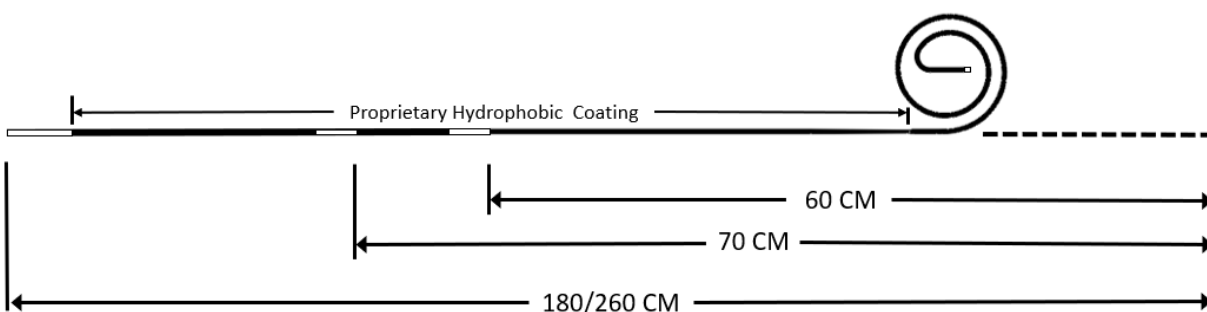
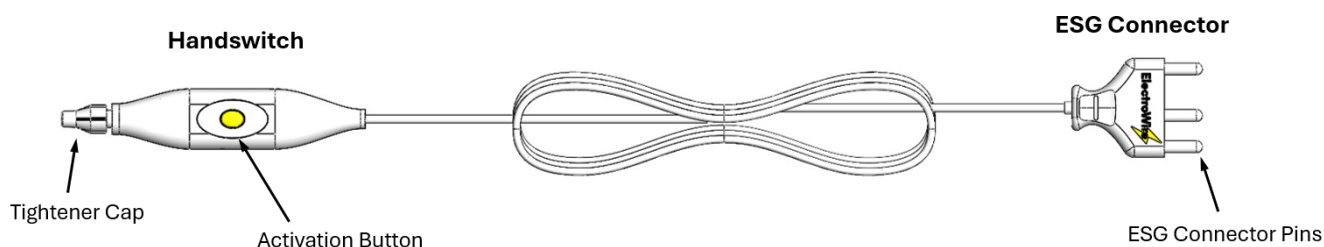

Figure 1: LightningWire
Figure 2: LightningWire Activation Cable
The LightningWire™ Transseptal Puncture System (TPS) is a needle-free, powered, wire-based TPS that is used to create an inter-atrial septal defect, enabling transseptal access to the left atrium. It consists of a LightningWire with proprietary hydrophobic coating (**Figure 1**) and an Activation Cable (**Figure 2**). It is a monopolar transcatheter electrosurgical accessory, wherein the tip of the LightningWire is the active electrode. The LightningWire is designed to be inserted through a commercially available transseptal introducer set and features visible markers (**Figure 1**) along its length to assist with aligning the wire tip in a compatible transseptal sheath and/or dilator assembly. The LightningWire is provided with a length of 180 cm or 260 cm (**Table 1**). The LightningWire is reversibly connected to a commercially available electrosurgical generator (ESG) by the Activation Cable, which includes an Activation Button that controls the flow of radiofrequency (RF) energy. The length of the Activation Cable is 3 meters. The LightningWire TPS is provided sterile and is for single use.